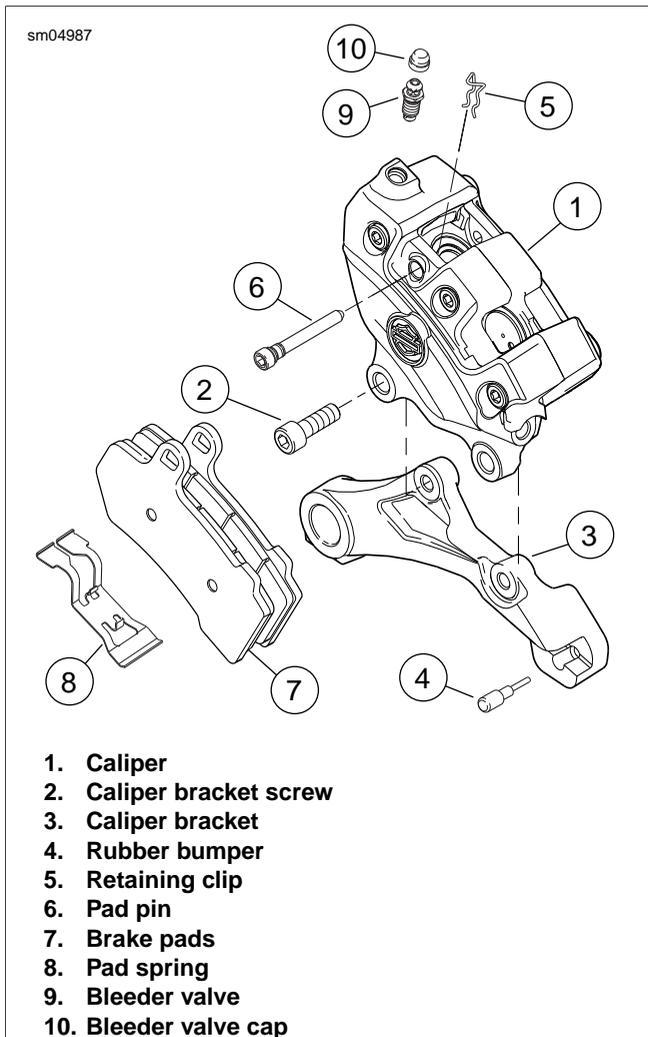

Figure 2-52. Rear Brake Caliper Assembly
3. Remove two screws to release caliper from caliper bracket. See Figure 2-52.